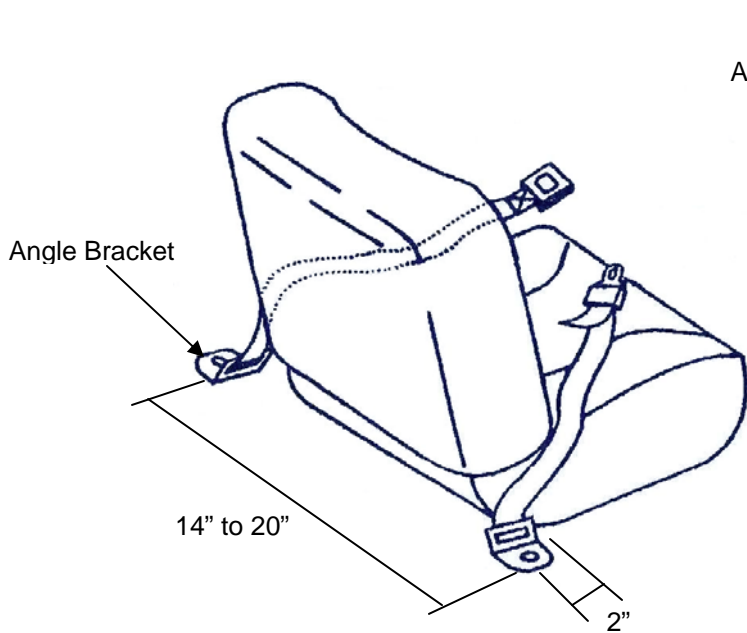
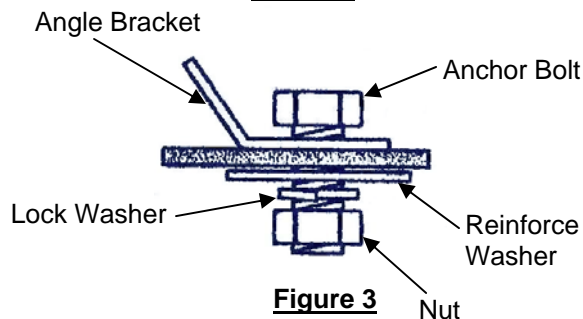

Figure 2
Figure 3
- b. If the vehicle is not equipped with any holes, slide the seat back as far as possible, position the holes about 2" rearward of the back edge of the seat and about 14" to 20" apart (see Figure 2). Drill holes through the floor pan; attach the angle brackets to the floor as shown in Figure 3. Be sure to mount the reinforce washer and lock washer on the underside of the floor, tighten the mounting bolt and nut while aligning the angle bracket to it's desired direction.